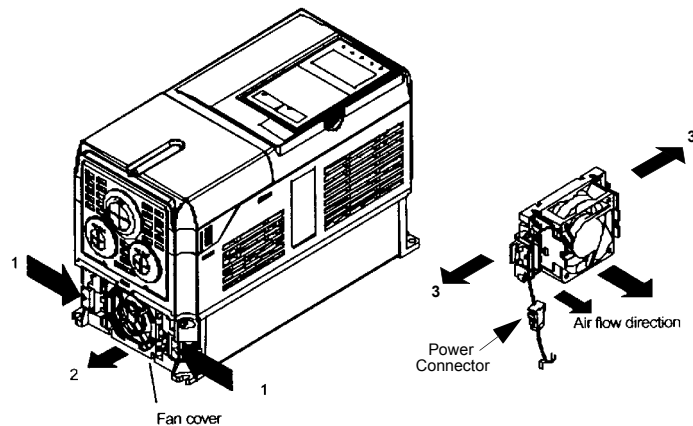

Fig 7.1 Cooling Fan Replacement Procedure
3. Pull out the cable connected to the fan from the fan cover and disconnect the power connector. See Fig 7.1